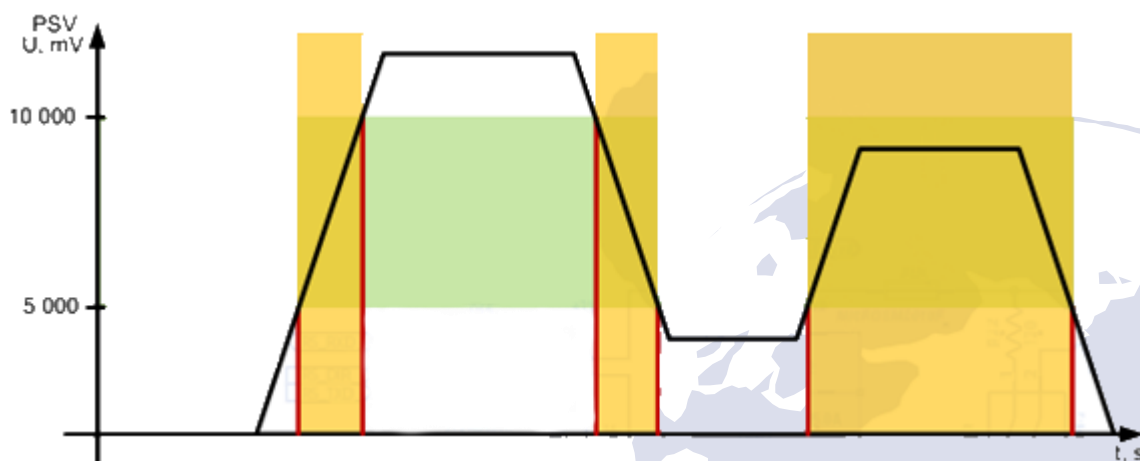

Fig. 9. Generation of the Event by Going Within/Beyond Range.
*Example:* Lower threshold of input voltage is set to 5 V (5,000), and the upper threshold is 10 V (10,000 mV). When actual input voltage goes off the limits of a configured range, the event is generated (Figure 9).